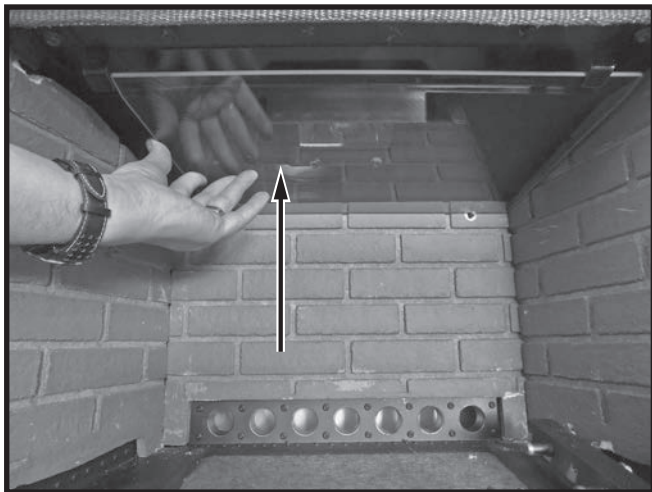

Figure 32: Raising baffle above front support.
2. Raise the opposite end of the baffle so that it is raised above the supports on the other side of the fire-box (Figure 32).